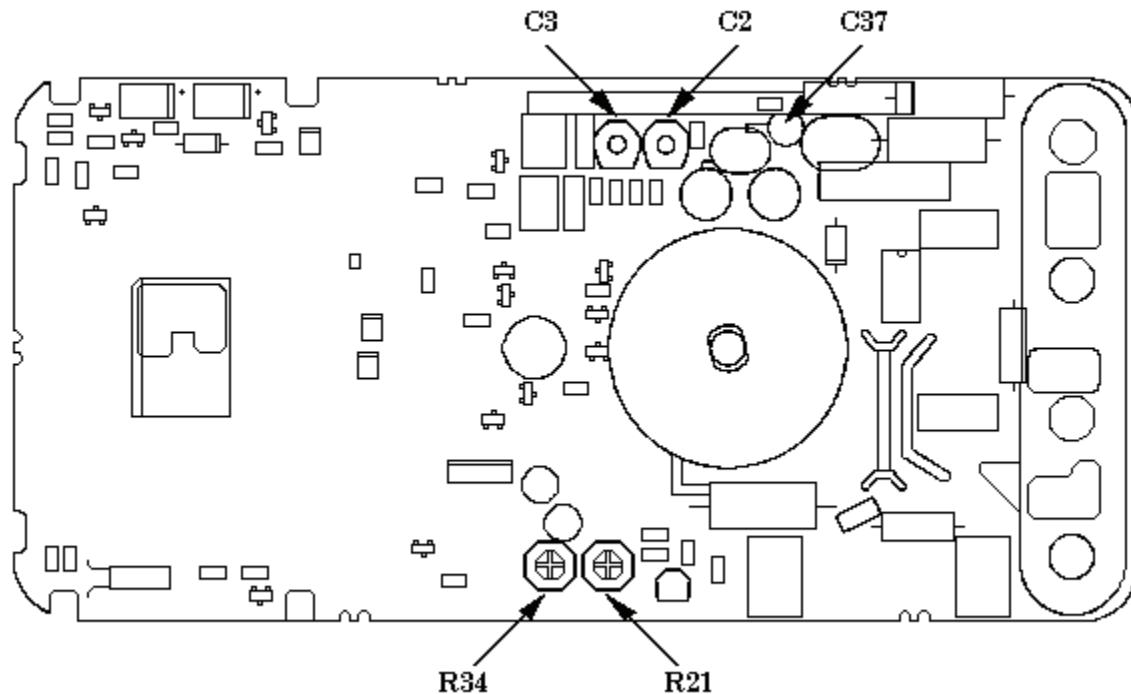

Figure 1. Adjustment locations.
(1) Set function switch to **V—**.
(2) Set calibrator for an output of 3.900 V dc.
(3) Adjust R21 (fig. 1) until TI indicates 3.900 V dc (R).
(4) Repeat a (1) through (4) above.
- (1) Set calibrator for an output of 3.513 V at a frequency of 50 Hz.
- (2) Adjust R34 (fig. 1) until TI indicates 3.500 V ac (R).
- (3) Change calibrator output amplitude to 100.0 V at a frequency of 20 k Hz.
- (4) Adjust C37 (fig. 1) until TI indicates 100.0 V ac (R).
- (5) Change calibrator output amplitude to 3.500 V at a frequency of 10 kHz.
- (6) Adjust C2 (fig. 1) until TI indicates 3.500 V ac (R).
- (7) Change calibrator output amplitude to 35.00 V at a frequency of 10 kHz.
- (8) Adjust C3 (fig. 1) until TI indicates 35.00 V ac (R).